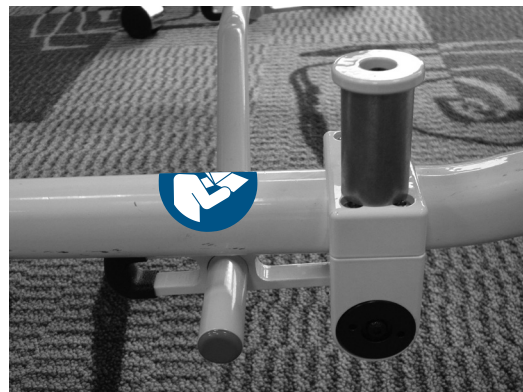

Figure 64
2. Operator 2 rolls the cot slightly forward to make sure that the kickstand retracts on its own as shown in Figure 64.